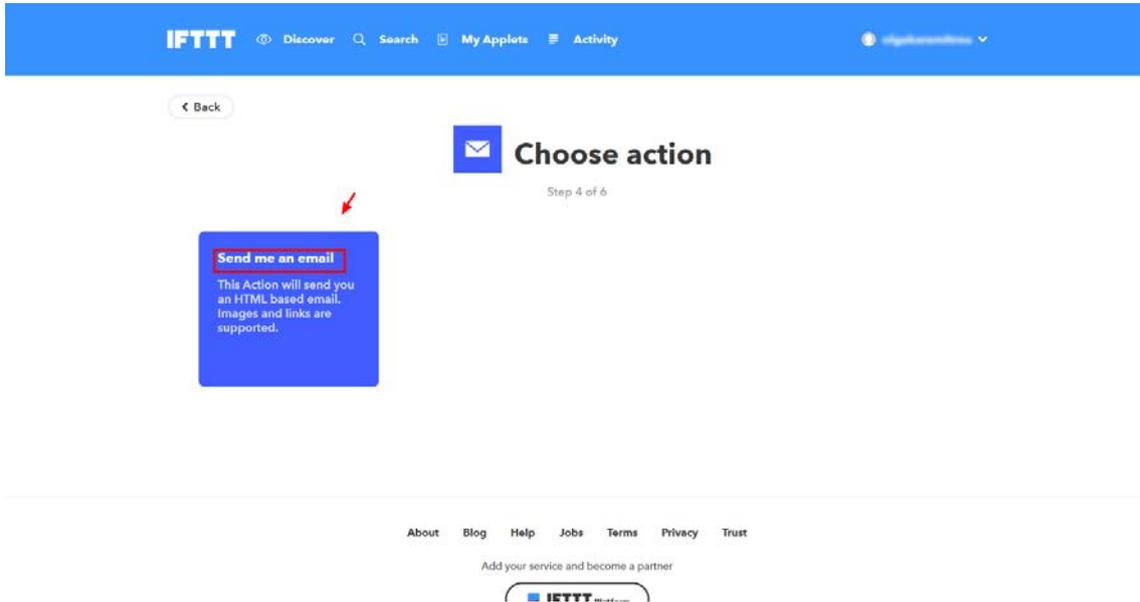

Figure 81: Make an IFTTT Applet, Step 4
- 9. On the 'Choose Action' screen, click on "Send me an email" action (Figure 81).